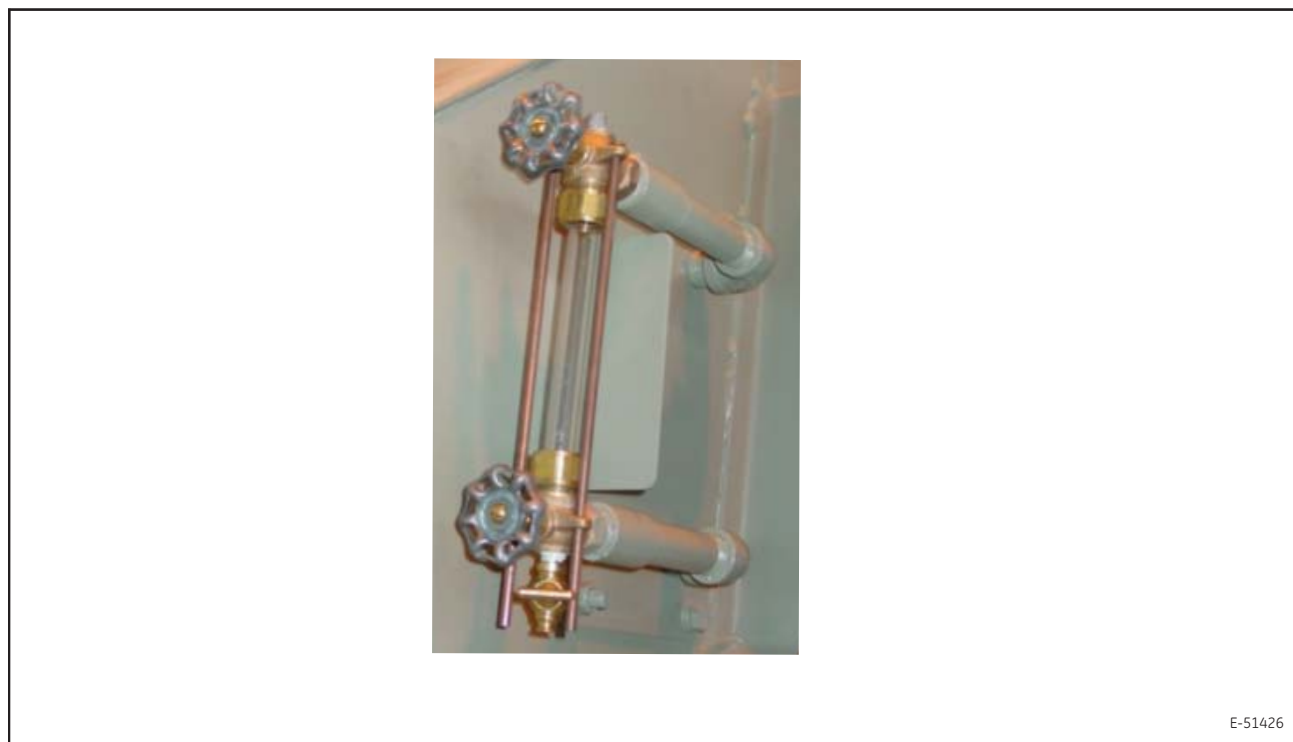

Figure 6. Engine Cooling Sight Glass (PH37ACmi Unit Shown)
4. Watch water system sight glass (Figure 4 [PH37ACai units only] and Figure 6), stop filling when water is visible.